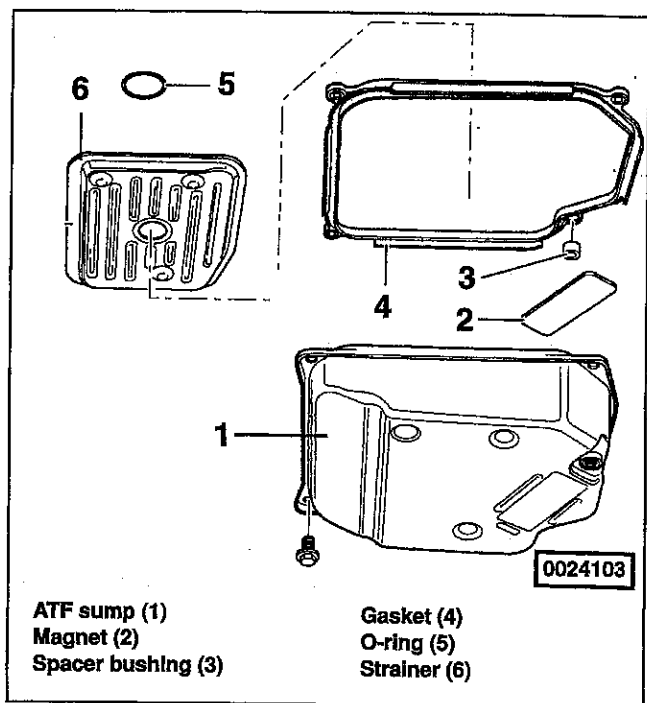

Fig. 28. Exploded view of ATF sump on 01M transmission. Be sure to fit spacer bushings into sump gasket.
6. Fit new O-ring into the new ATF strainer and install. See Fig. 28.